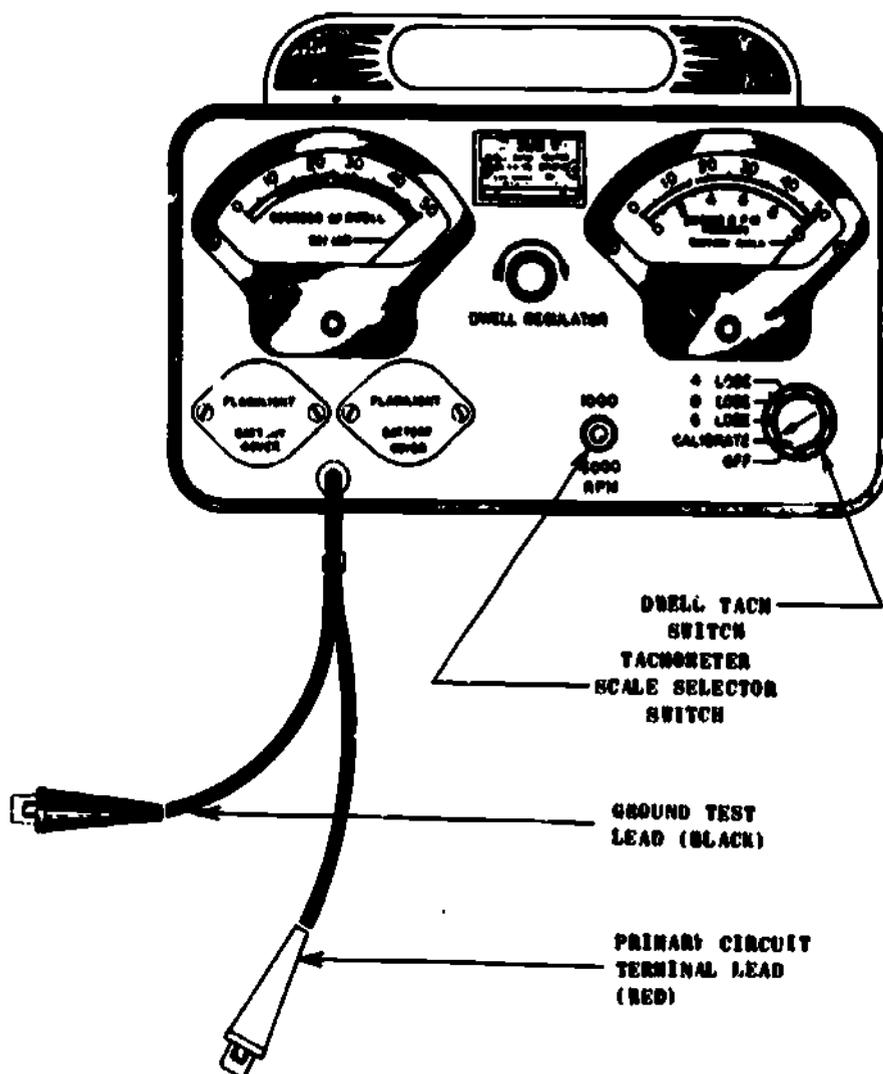

Fig 1-24. Dwell-tach tester (Sun).
- (4) **Dwell-tach tester (fig 1-24).** The dwell-tach tester is used to measure the dwell angle and the rpm of an engine that has a spark ignition. One lead (normally red) is connected to the primary ignition circuit at the closest place to the contact points and the other lead is connected to ground. Some testers have only one meter for reading both dwell angle and rpm. Other testers, such as the Sun Dwell-Tach (fig 1-24), have a meter for reading dwell angle and a meter for reading rpm. The testers that use batteries have a control for calibrating the tester before each use. If the tester cannot be calibrated, the batteries should be replaced. Testers without an internal power source are usually calibrated by turning a screw at the pivot point of the pointer needle. The adapter kit is used with the testers on magnetos and distributors with shielded systems.